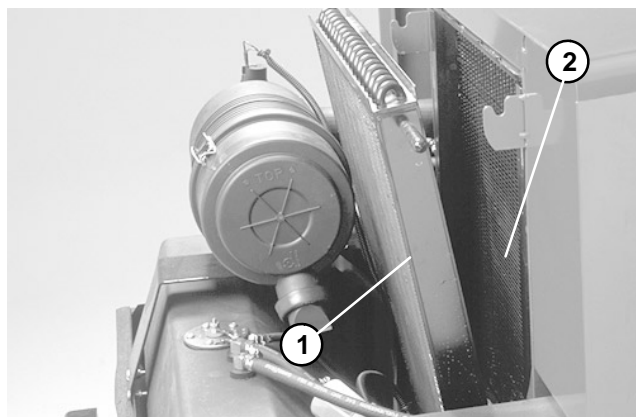

Figure 18
4. Lift up on oil cooler handles and pivot rearward in mounting slot. Clean both sides of oil cooler, radiator and rear engine area thoroughly with compressed air (Fig. 18).